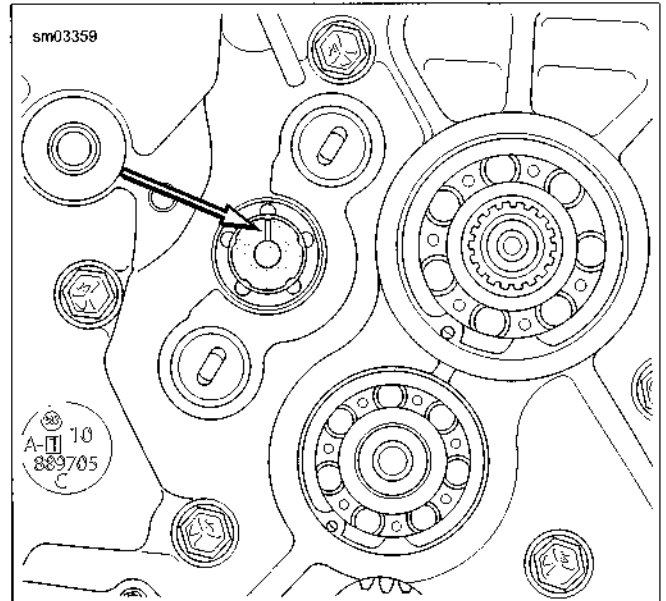

Figure 5-27. Scribed Line on Shifter Drum at 12 o'clock
12. See Figure 5-27. With transmission still in neutral, scribe a line on end of shifter drum at 12 o'clock position for later reference.